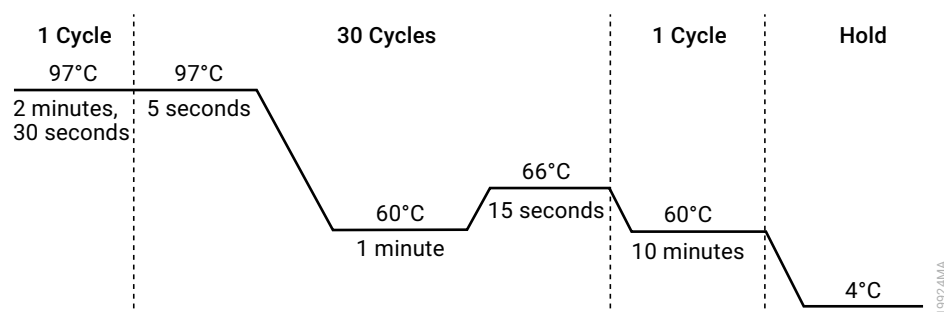

Figure 3. Thermal cycling protocol for the ProFlex® PCR System.
2. Select and run the protocol provided below and in Figure 3. The total cycling time is approximately 70 minutes.